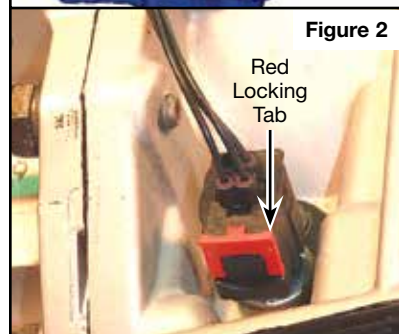

Figure 2
- Remove harness connector from the transmission sensor by using a flat blade screwdriver or similar tool to gently back out the red locking tab about 1/4" (**Figures 2 & 3**).